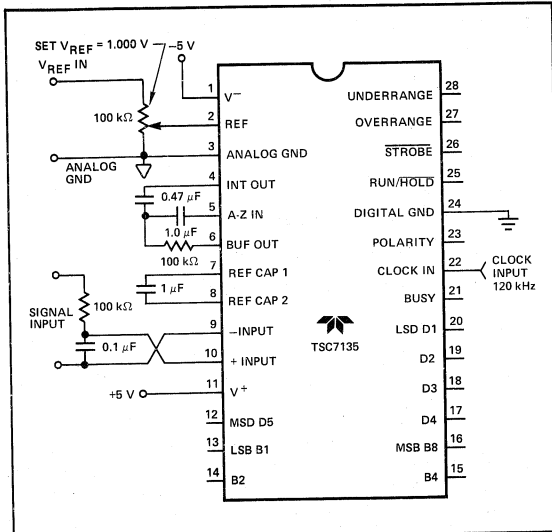

Figure 1: TSC7135 Test Circuit
- Test Circuit shown in Figure 1.